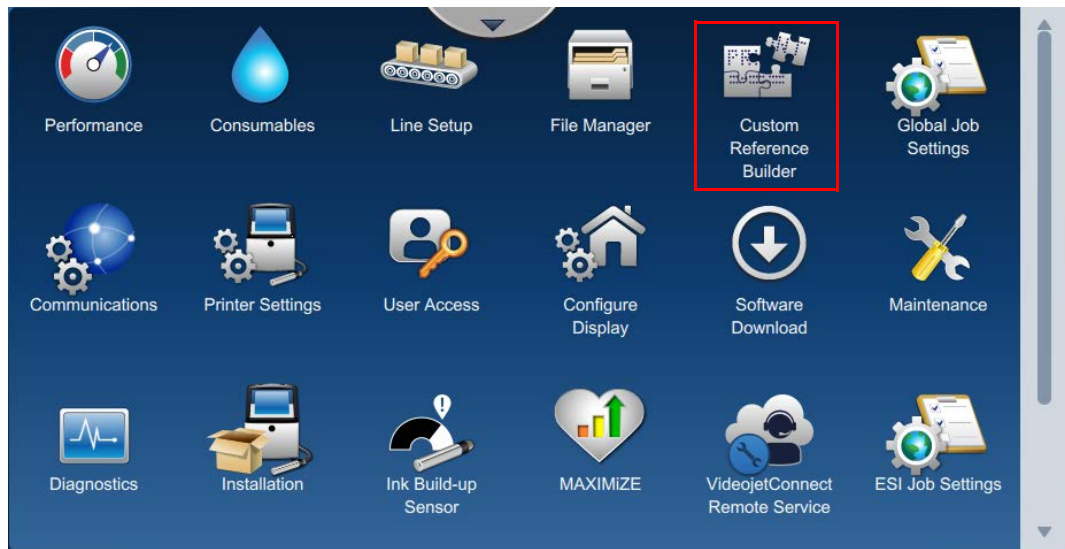

Figure 3-15: Tools Screen
1. Touch the *Tools* button on the Home screen to access the Tools screen and select the Custom Reference Builder option as shown in Figure 3-15.